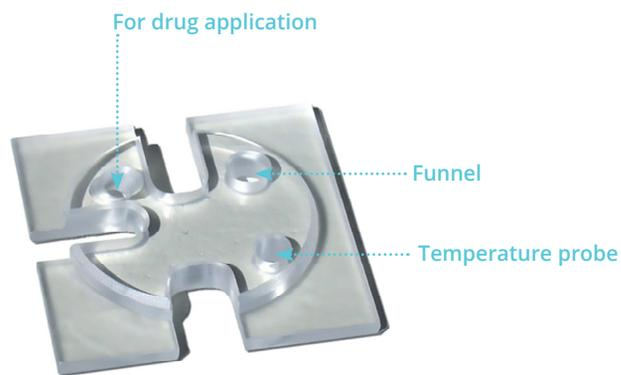

Figure 2.3 Chamber cover
4. **Chamber Covers:** The chamber covers will help maintain the temperature and other buffer conditions (gas tension, pH) fairly constant. Holes in the chamber covers serve different purposes, and they are illustrated in Figure 2.3 above. The slots allow the covers to be placed over the chamber around the support arms and gas/vacuum tubes.